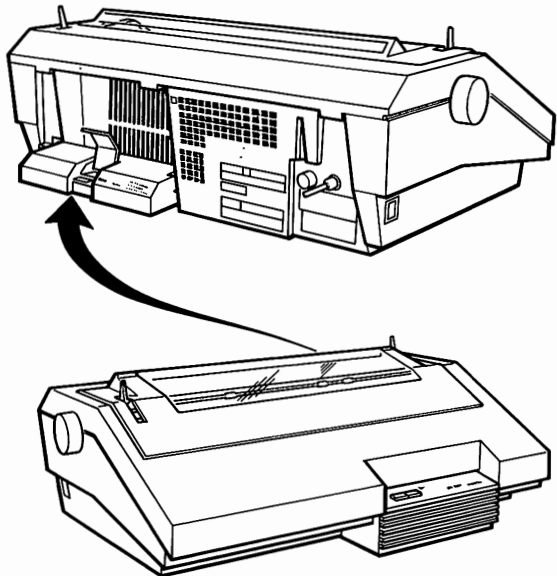

Figure 3-18. Back and front views of 635 Printer.
- Locate the interface cartridge at the back of the printer. (See Fig. 3-18.)